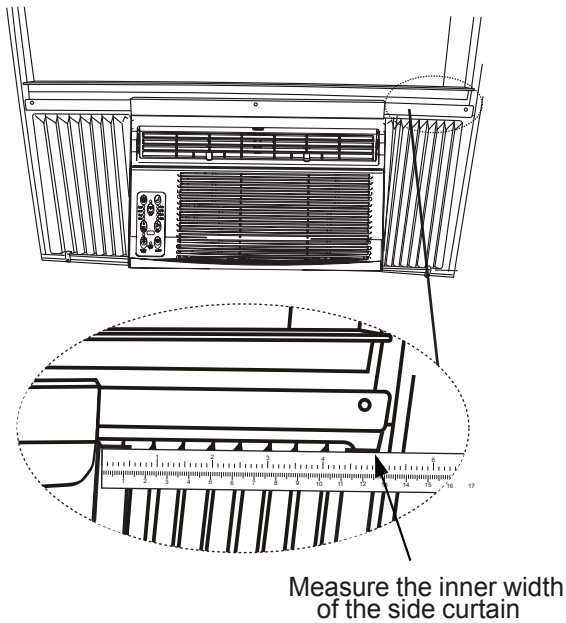

Fig.20
Step 1. After the unit is installed to the window, measure the inner width of the side curtain as shown (Fig.20).